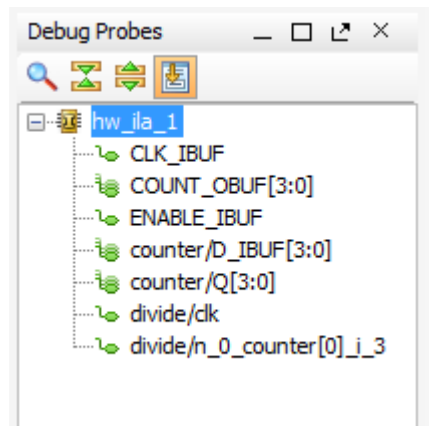

Figure 5. List of Debug Nets
3. Next, select the ILA Probes tab as shown in figure 5 and ensure that all of the debug nets added from previous steps are accounted for.